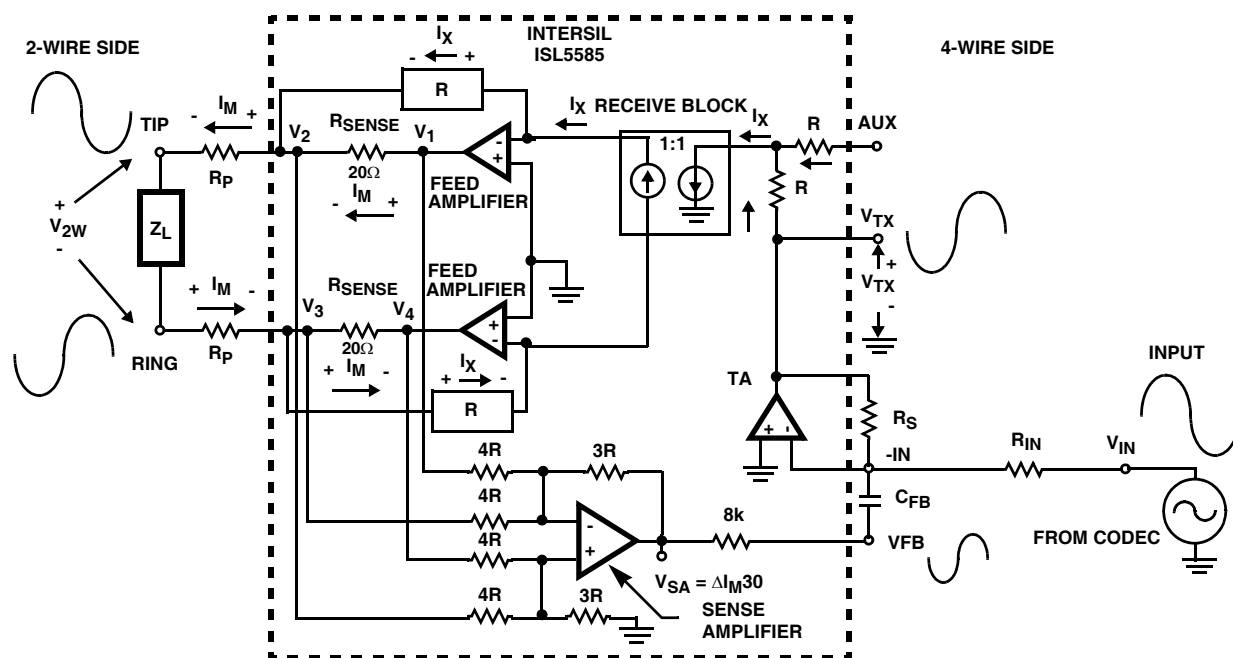

FIGURE 6. 4-WIRE TO 2-WIRE SIGNAL PHASE ACROSS THE ISL5585
Figure 6 illustrates the phase of the input signal across the ISL5585 when the signal is applied at the -IN pin of the ISL5585 through the R_{IN} resistor. The Transmit Amplifier (TA) inverts the signal 180 degrees at the VTX pin. The feedback around the tip amplifier inverts the signal again on the tip lead. The input signal will cause AC loop current to flow through the 20 Ω sense resistors in the direction from V1 to V2 and V3 to V4. This results in an inverted signal (referenced from tip) on the VSA and thus the VFB pin. This out of phase signal is the signal used by the feedback path to match the line impedance of the 2-wire side.